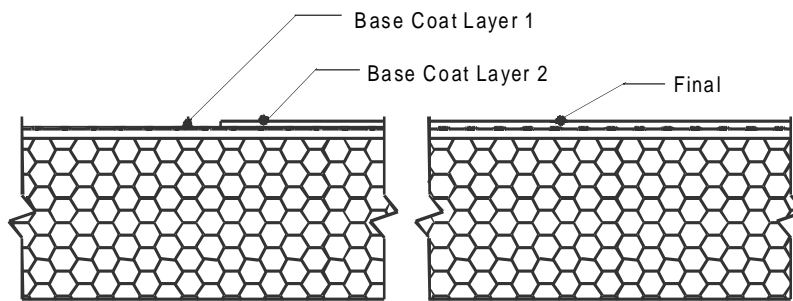

Figure 9
- 9.5.1.2.(3) Allow the base coat mixture to take up until firm to the touch. Trowel a second tight coat of the base coat mixture over the first coat to **fully cover** the reinforcing mesh – Figure 9. The result should be such that the reinforcing mesh is approximately centered within the base coat thickness. Do not allow the first pass to completely dry prior to the second pass application or an excessive amount of base coat mixture will be necessary to fully coat the wall surface. Total dry rendering thickness shall be no less than 2.0mm (1/12 in).